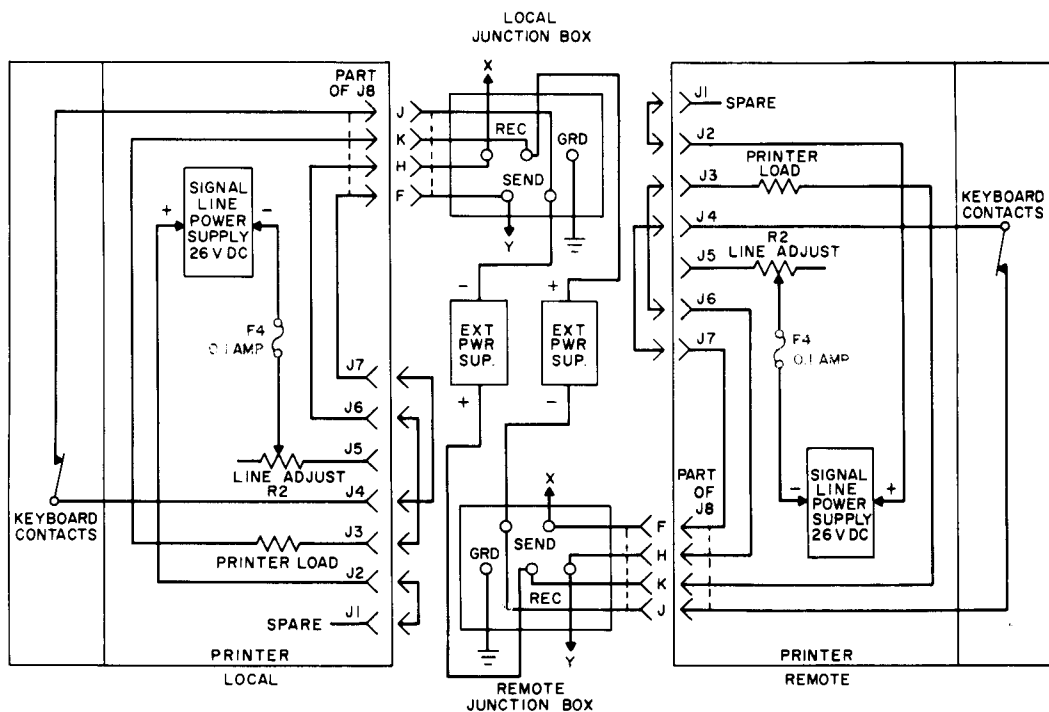

Figure 2-13. Patching Mode 4, (External Battery in Both Send and Receive Lines)
(2) RECEIVE LINE BATTERY SUPPLIED EXTERNALLY, SEND LINE BATTERY SUPPLIED EXTERNALLY (MODE 4). - Operation in Mode 4 (see figures 2-13 and 2-18) means that all signal line power is supplied by an external power supply or by a remote teletypewriter set. Patch jacks J1 to J2, J3 to J6, and J4 to J7 to obtain Mode 4 operation.
(3) SEND LINE BATTERY SUPPLIED INTERNALLY, RECEIVE LINE BATTERY SUPPLIED EX-